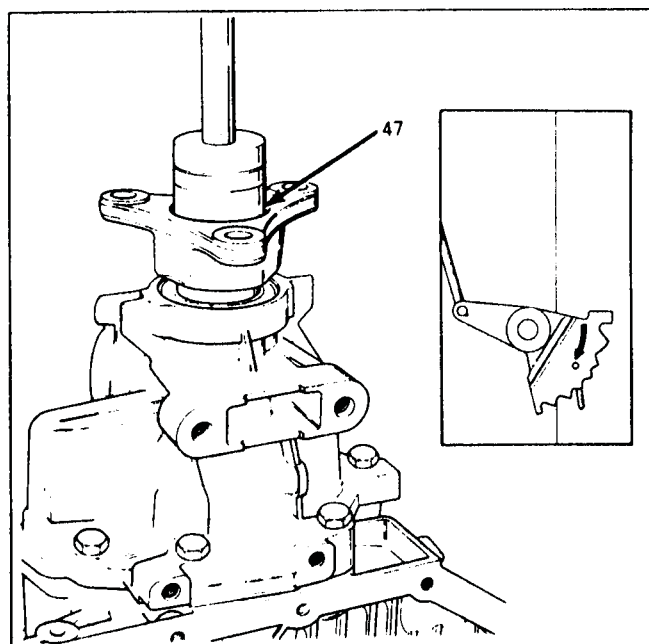

Figure 23
1. Rotate the transmission to a vertical position with the extension housing up, as shown in Figure 23.
5. Remove the output shaft drive flange nut, using a 1-1/2" socket, as shown in Figure 23.